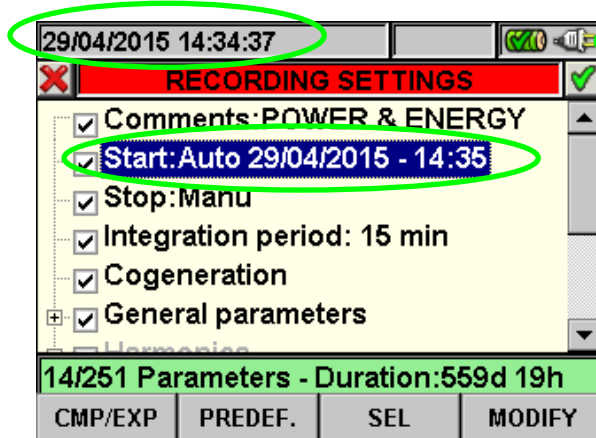

Fig. 90: Correct Date/Hour
2. Press **F4** key (alternatively touch the **MODIFY** at display). In the bottom of display a command bar with “Manu” is shown. Press **F3** key (**MOD(+)**) or **F4**(**MOD(-)**) and select “Auto” .Use left or right arrows keys to move on date and hour fields. Using the up arrow key or **F3** (**MOD(+)**) key to increase the value and the down arrow key or **F4** (**MOD(-)**) key to decrease the value. Set a correct Date/Hour as shown in Fig. 90.